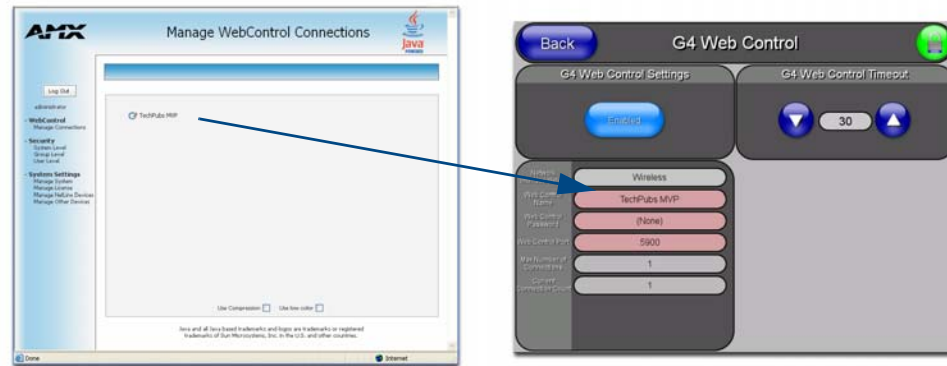

FIG. 43 Sample relationship between G4 Web Control and Manage WebControl Connections window
9. From the Web Name keyboard, enter a unique alpha-numeric string to identify this panel. This information is used by the NetLinx Security Web Server to display on-screen links to the panel. The on-screen links use the IP Address of the panel and not the name for communication (FIG. 43).